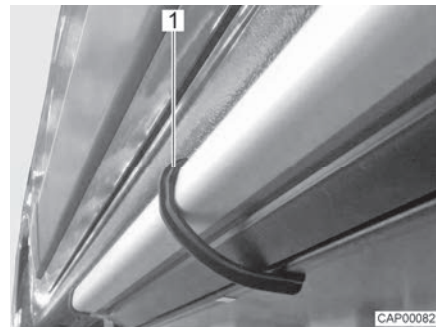

Fig. 9 Fixing clamp (entrance step)
- Secure the entrance step against sliding out using the included fixing clamp (Fig. 9,1).